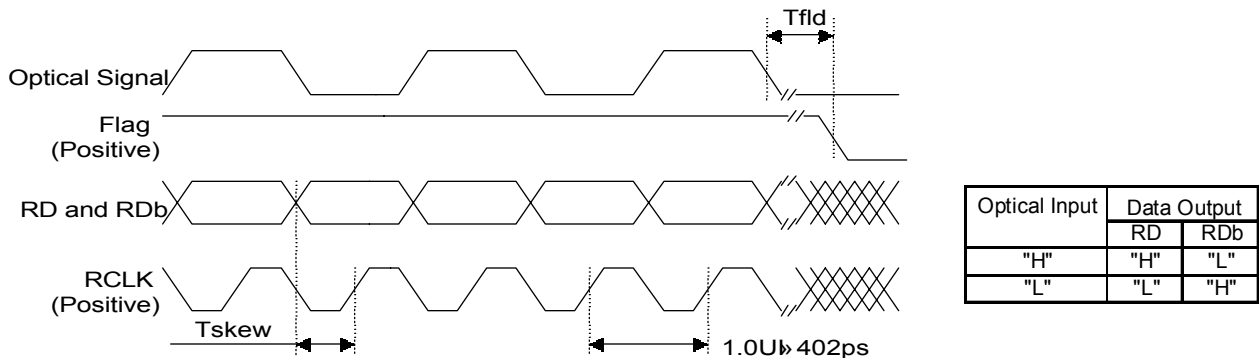

Figure 4 Output Timing Chart
1. 2488.32Mbps, PRBS 2^23-1 2. Output current is not included. 3. V_{ccd} , V_{cca} = 5.0V, T_c = 25°C 4. R_I = 50 Ω , Single end out. 5. Please refer to Figure 4.
3. 2488.32Mbps, PRBS 2^23-1, NRZ 4. Please refer to Figure 4